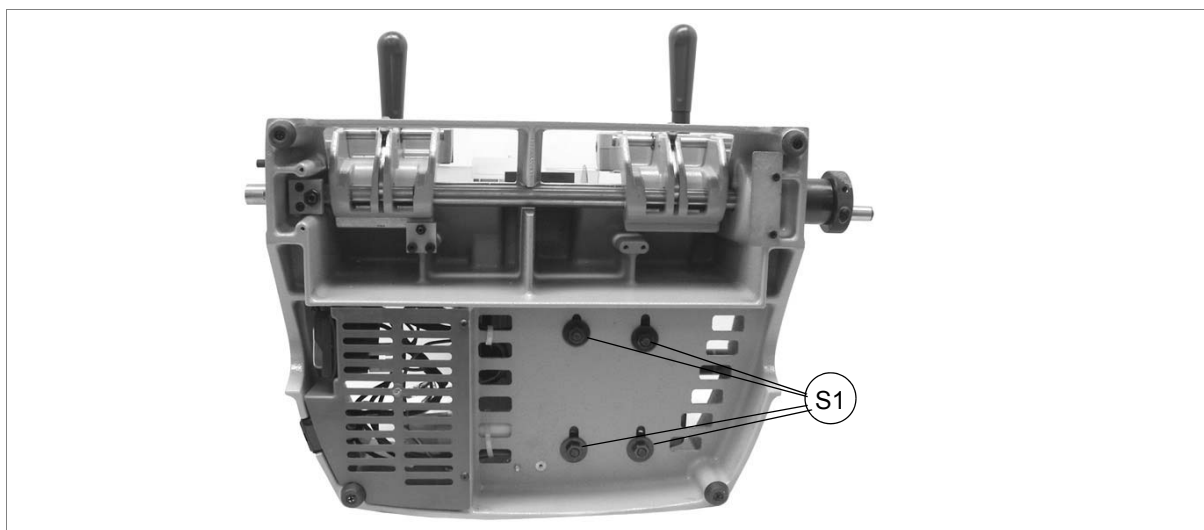

Fig. 60
- 5) Loosen the 4 screws (S1) (fig. 60) on the motor fixing plate and remove the belt (chap.9.4, page 35).
- 9) Install the belt and tighten it, and tighten the 4 screws (S1) (fig. 60) of the plate motor.